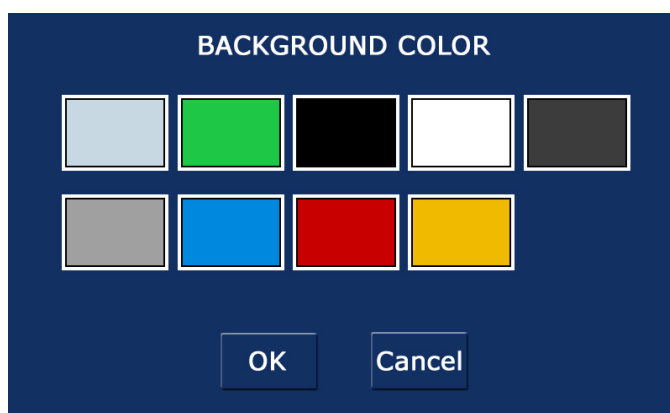

fig. 10
**Foreground/Background Color:** The Reference 10 has ten color options for both screen background and text. Selecting either one of these options from the settings menu will allow you choose a new color to customize the display on your Reference 10. Please note that the currently selected color is not displayed in the choices shown, nor do you have the option to choose the same color for both the background and foreground (fig. 10).